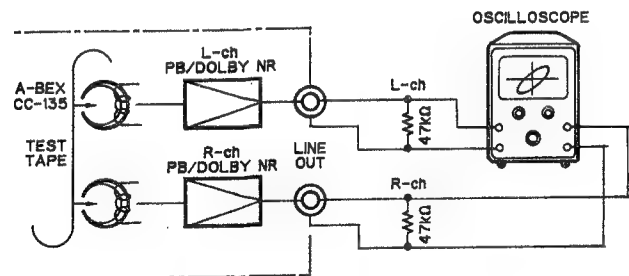

Fig. 2-1
- After completing the tape transport check, load the test tape (A-BEX TCC-153). Fig. 2-1